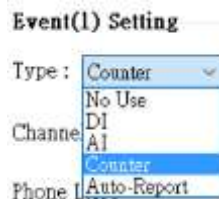
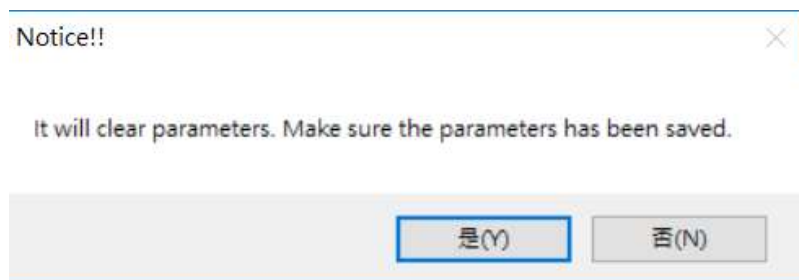

Figure 6.10.22
Figure 6.10.23
E. Select “Counter” in Type as shown in Figure 6.10.22. After selecting, it will pop up the attention window and select “Yes” as shown in Figure 6.10.23